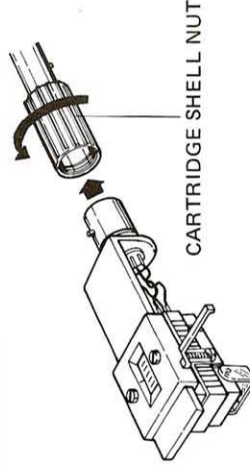

Fig. 5
4. Attach the cartridge shell to the tone arm and tighten the cartridge shell with the cartridge shell nut by turning it clockwise (Fig. 5).